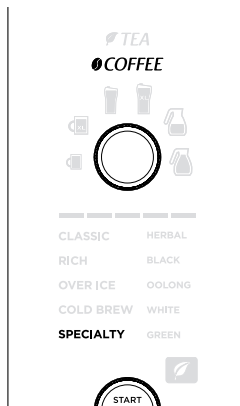

Fig. 18
- 4 Turn the START/SELECT dial to choose SPECIALTY (Fig. 18). If brewing tea, press the Tea button  to toggle to the tea menu, and use the dial to choose your tea type. To change your brew style while in the tea menu, press the Tea button  again.